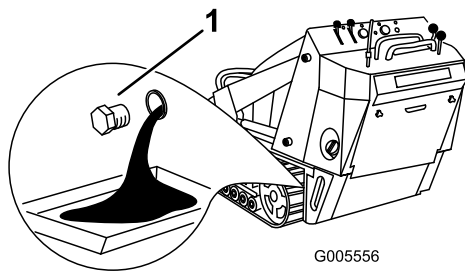

Figure 32
4. Remove the drain plug (Figure 32).